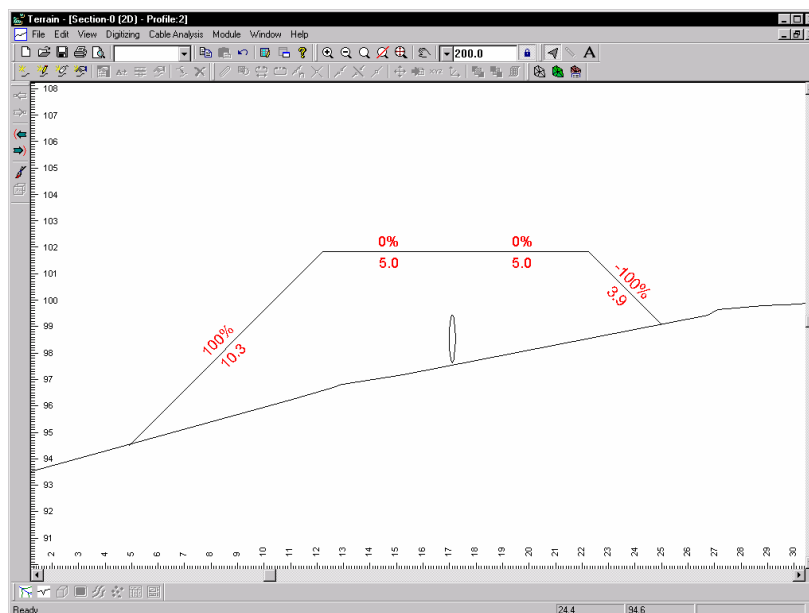

Figure 9.13: Cross Section with Road Template
30. With the length and grades displayed, draw a road prism for a 10 m wide road similar to the one shown Figure 9.13